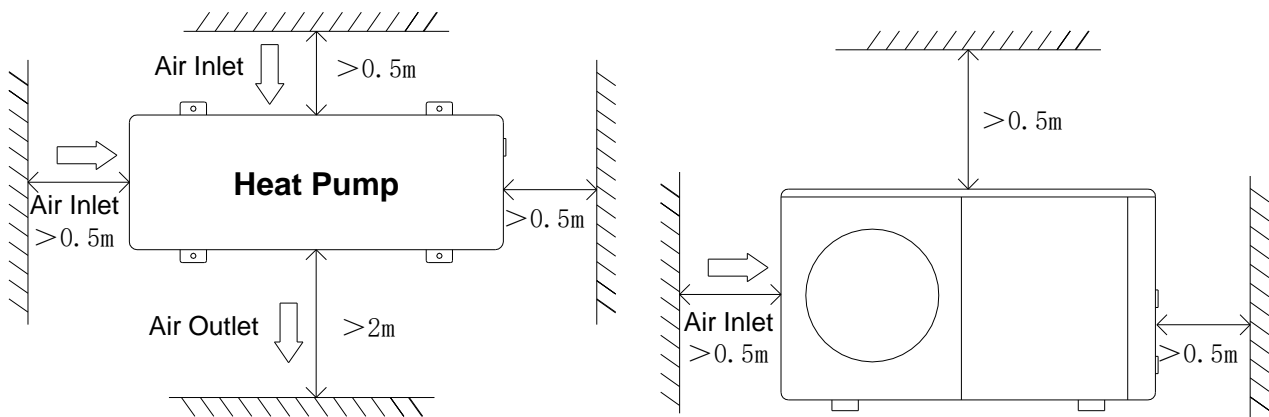

Figure 1
4. For easier and better maintenance and troubleshooting, no obstacles around the unit should be closer than 1m. And no obstructions within 2m, vertically, from the unit for air ventilation. **(See Figure 1)**